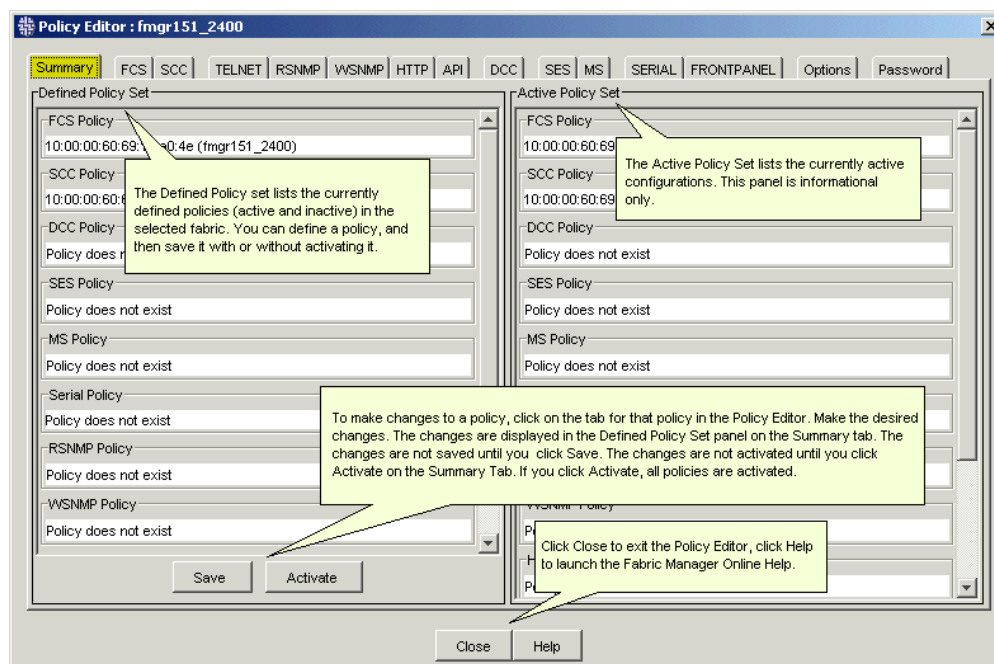

Figure 30: Policy Editor
You can configure policy settings later as well by using the Policy Editor in Fabric Manager (see Figure 30). If you do not define policies, the FCS and SCC policies are created by default and the security setting is set to Low by default.
2. Select **Actions > Security > Security Policy Editor**. The **Policy Editor** is displayed (see Figure 30 on page 147).